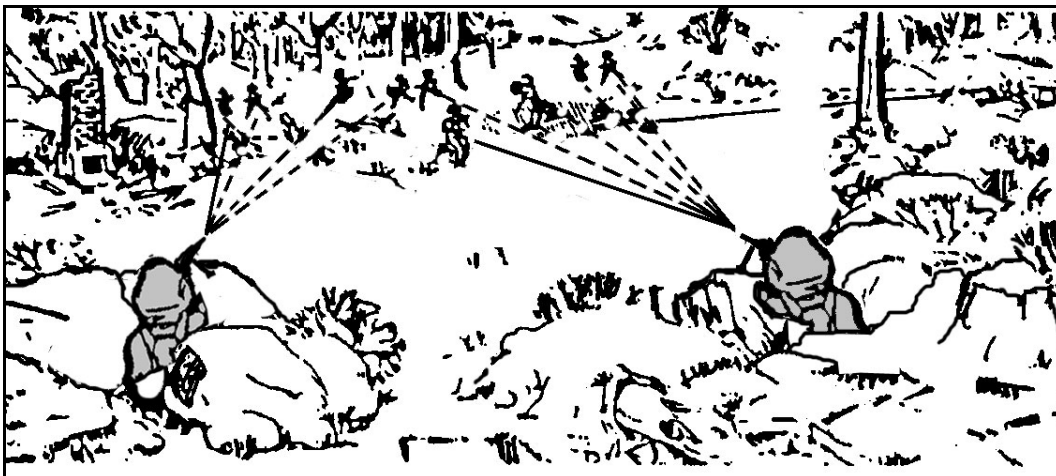

Figure 5-14. Engagement of area targets with a pair of gunners.
(1) *Area Targets.* When using a pair of machine guns to engage area targets, the gunner on the right fires on the right half, and the gunner on the left fires on the left half. The point of initial aim and adjustment for both gunners is on the midpoint. After adjusting fire on the center of mass, both gunners distribute fire by applying direction and elevation changes that give the most effective coverage of the target area. The right gunner traverses to the right, applies the necessary amount of search, and fires a burst. He traverses and searches up and down until the right flank of the area target has been reached. The left gunner traverses and searches to the left flank in the same way. Both gunners then reverse the direction of manipulation and return to the center of mass, firing a burst after each combined direction and elevation change (Figure 5-14, page 5-10).